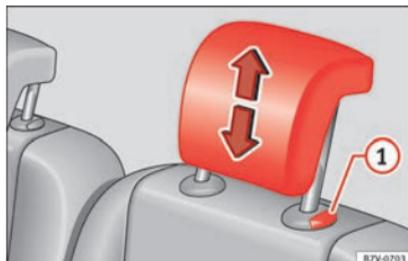

Fig. 151 Adjust the head restraints in the second or third row of seats
- Raise the head restraint in the direction of the arrow or lower it » **Fig. 150** or » **Fig. 151** **1** with the button pressed »  in **Removing and installing the head restraints** on page 144.